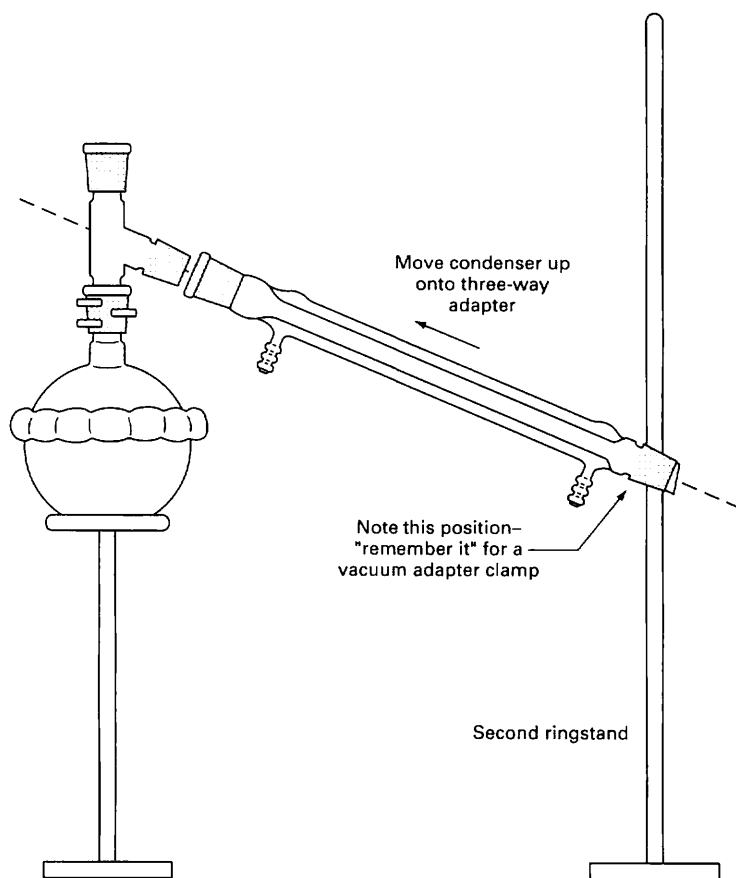

Fig. 92 Trial fit for vacuum adapter.
5. Put a second ringstand about one condenser length away from the first ringstand. Now add the condenser, just holding it onto the three-way adapter. Make a mental note of where the inner joint (end) of the condenser is—you'll want to put a clamp about there. Remove the condenser (Fig. 92).